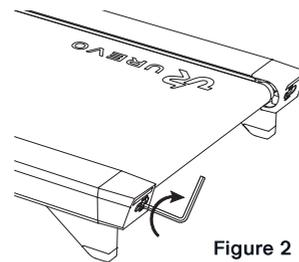

Figure 2
- If the walk belt has shifted to right, use the hex tool to turn the right idler roller screw clockwise $\frac{1}{4}$ of turn(refer to figure 2).